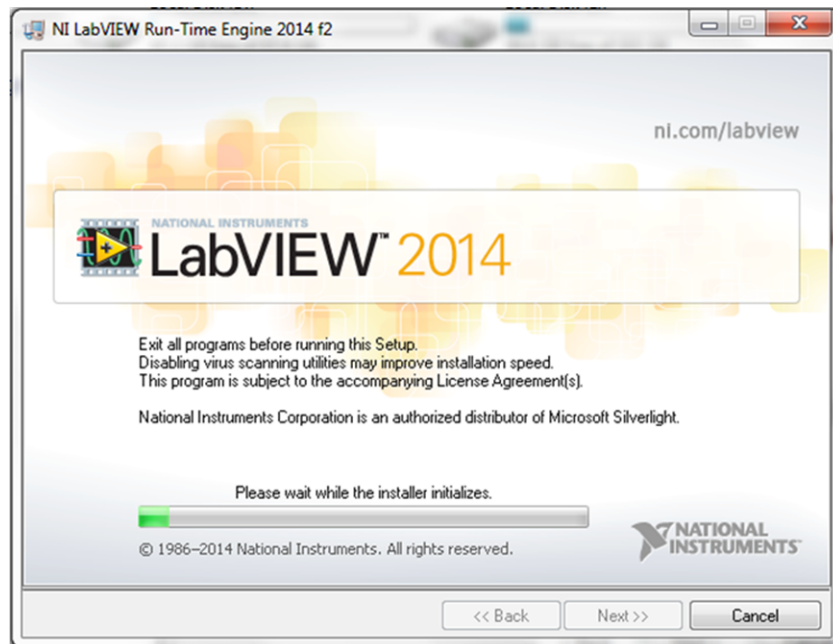

Figure 16. LabVIEW RTE Installation Initialization
11. A screen appears as shown in Figure 16. It initializes the LabVIEW RTE Installation.